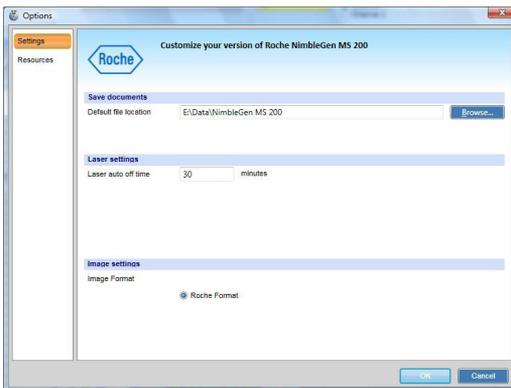

Figure 23: Options Window
1. Click the **Roche** button () to display the Application menu and select **Options**. The Options window opens (Figure 23).